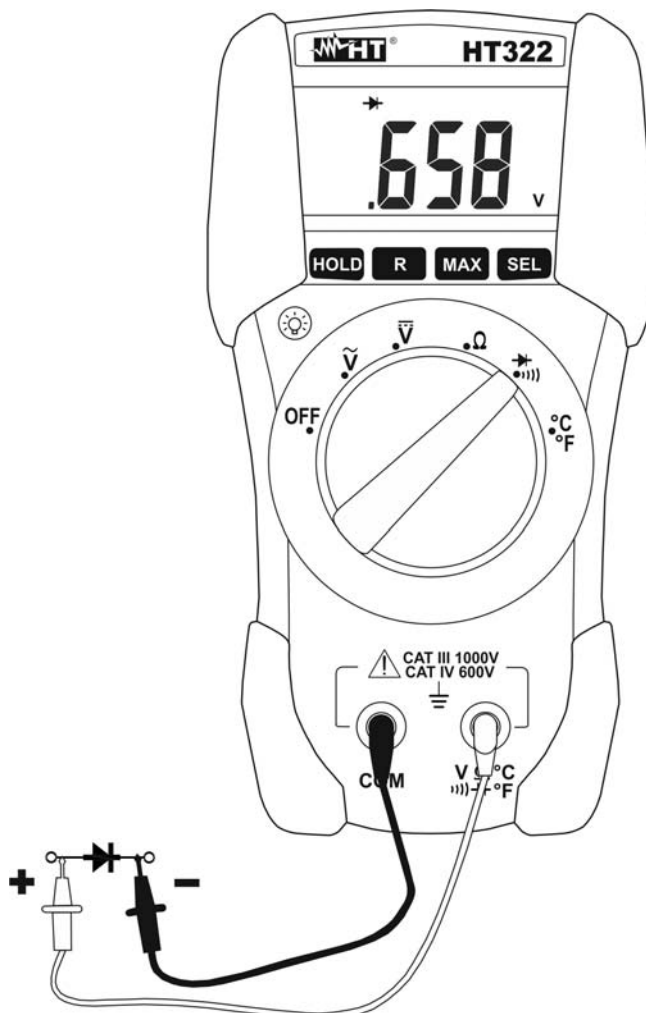

Fig. 5: Using the instrument for Diode test
2. Insert the test leads into the jack, the red plug into $V\Omega \rightarrow \text{diode symbol}$ (for HT321) / $V\Omega \rightarrow \text{diode symbol} \text{ } ^\circ\text{C}^\circ\text{F}$ (for HT322) jack, and black plug into **COM** jack (see Fig. 5)
3. Connect the test leads to the diode under test observing the proper polarities indicated in Fig. 5. The threshold voltage value expressed in mV under this situation is displayed